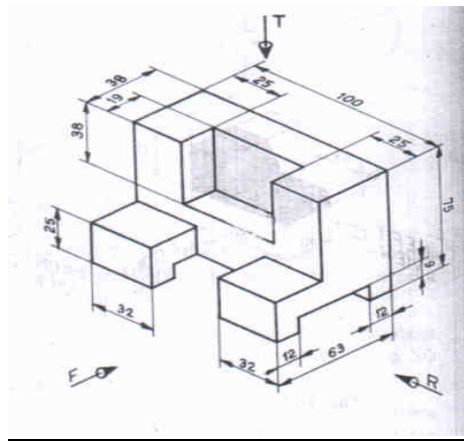

Fig.2
2. Draw the three principal views of the component as shown in the figure2